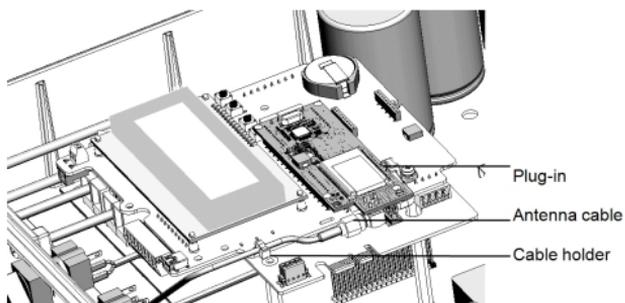

Figure 16: Installed plug-in and antenna cable
9. Pull the excess cable into the inverter so that the cable can be attached to the inverter communication board (see *Figure 16*). The cable connects to the cellular Plug-in as described in the following section.
7. Connect the antenna cable to the plug-in and tighten manually (see *Figure 16*).